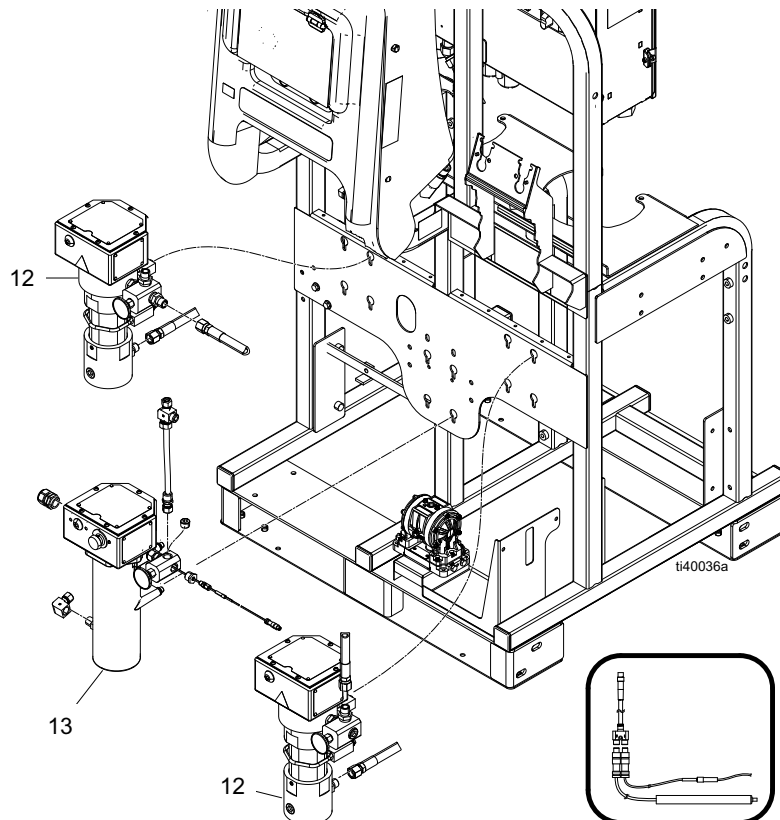

FIG. 8: Heaters on System Module
5. **System Module Heaters:** See FIG. 8. Loosen four mounting screws, lock washers, and plain washers on back of heater (12 or 13) that secure it to the system frame. Slide heater up and remove from mounting plate.
6. **Feed Module Heaters:** See page 59. Remove 2 screws (224) then remove heater (226) from feed module frame.